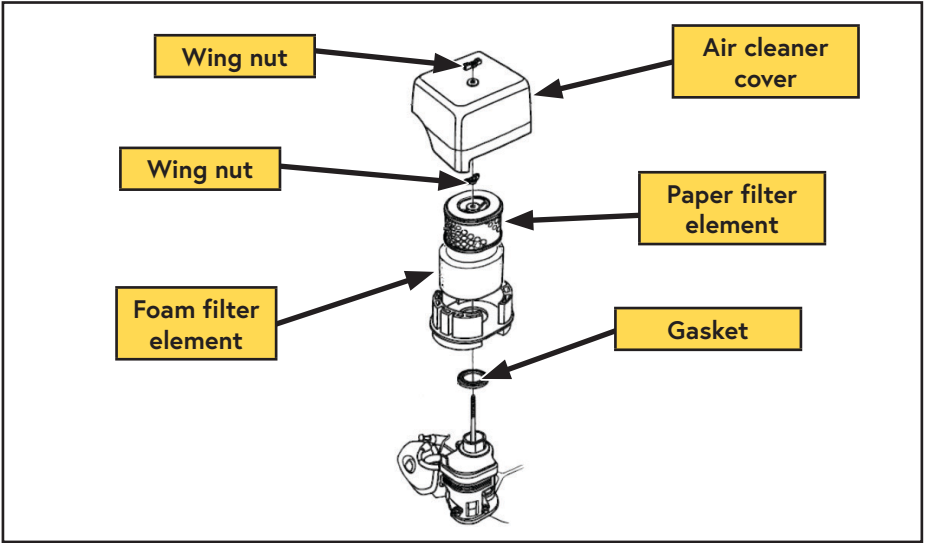

Figure 41 — Replacing the dual element air filter
- Remove the wing nut from the air cleaner cover, and remove the cover (Figure 41).